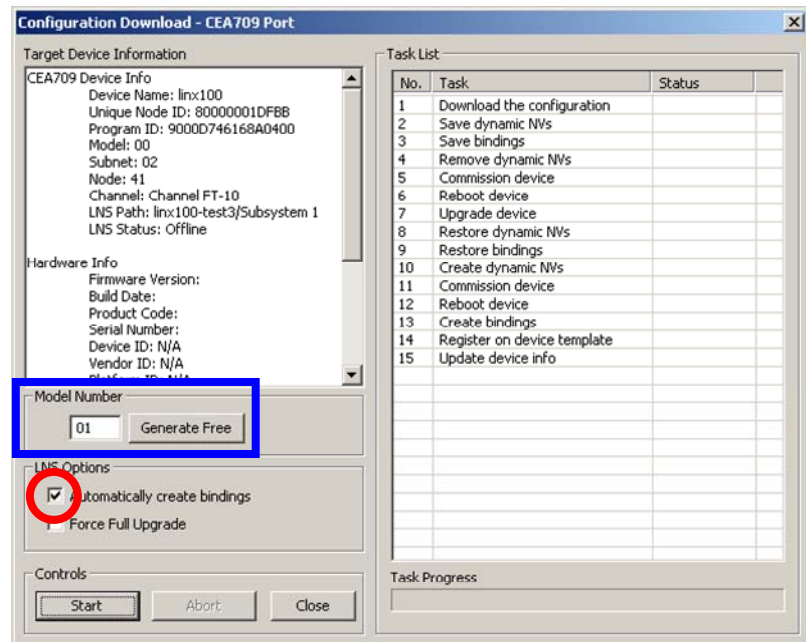

Figure 85: Configuration Download Dialog
in the tool bar. The configuration upload dialog opens up as shown in Figure 85.
2. If no bindings shall be generated, deselect the **Automatically create bindings** checkbox indicated by the red circle in Figure 85.
3. If the static NV interface has been changed, a new model number for the L-Gate needs to be selected. This is necessary, as the static network interface of the L-Gate changes on the CEA-709 network. The L-Gateway configuration software automatically selects a usable value, which can be overridden in the field **Model Number** marked by the blue rectangle in Figure 85.